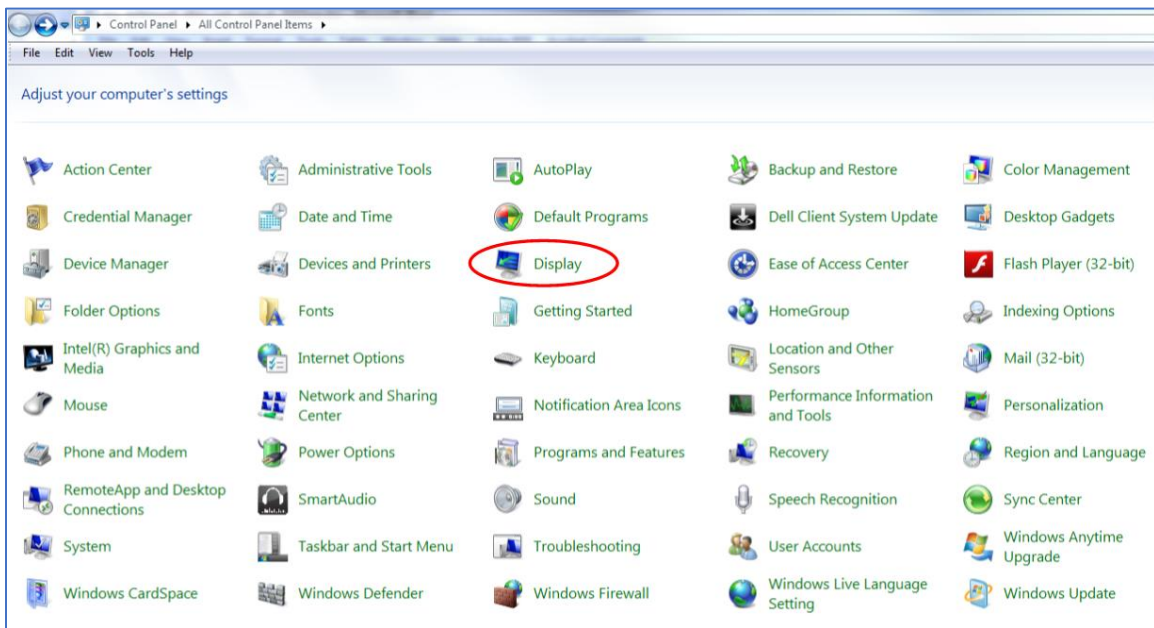

Figure 243: Control Panel, Display Selection
2. When the Control Panel screen displays, click on the Display selection, as shown in Figure 243.